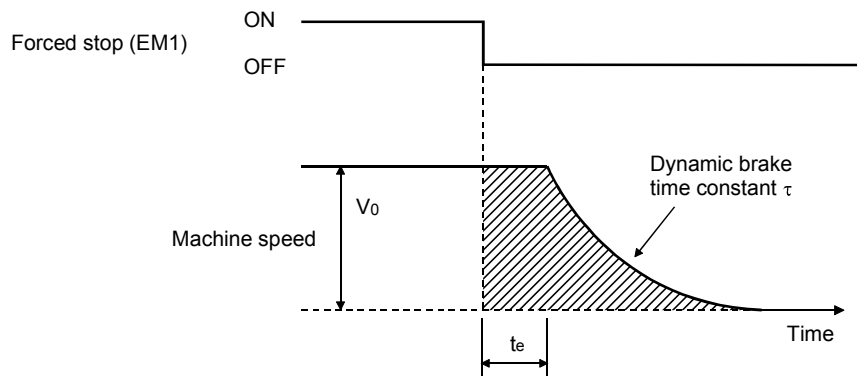

Fig. 10.3 Dynamic brake operation diagram
(1) Calculation of coasting distance
Fig. 10.3 shows the pattern in which the servo motor comes to a stop when the dynamic brake is operated. Use Equation 10.2 to calculate an approximate coasting distance to a stop. The dynamic brake time constant τ varies with the servo motor and machine operation speeds. (Refer to (2) of this section.)